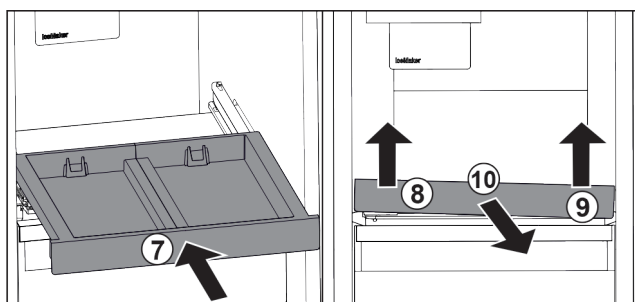

Fig. 119
- ▶ Slide in the pull-out board. Fig. 119 (7)
- ▶ Lift the pull-out board on the front left. Fig. 119 (8)
- ▶ Lift the pull-out board on the front right. Fig. 119 (9)
- ▶ Take out the pull-out board to the front. Fig. 119 (10)